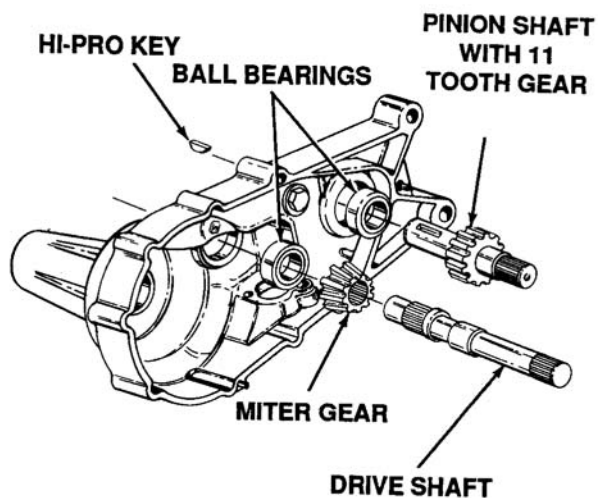

Figure 5-111. Pinion Shaft With 11 Tooth Gear Removal
18. Remove pinion shaft with 11 tooth gears, first remove the hi-pro key from shaft. Then pull gear and shaft out of housing. See Figure 5-111. Inspect gear teeth for any damage and inspect shaft for any damage on splines. Replace if necessary.